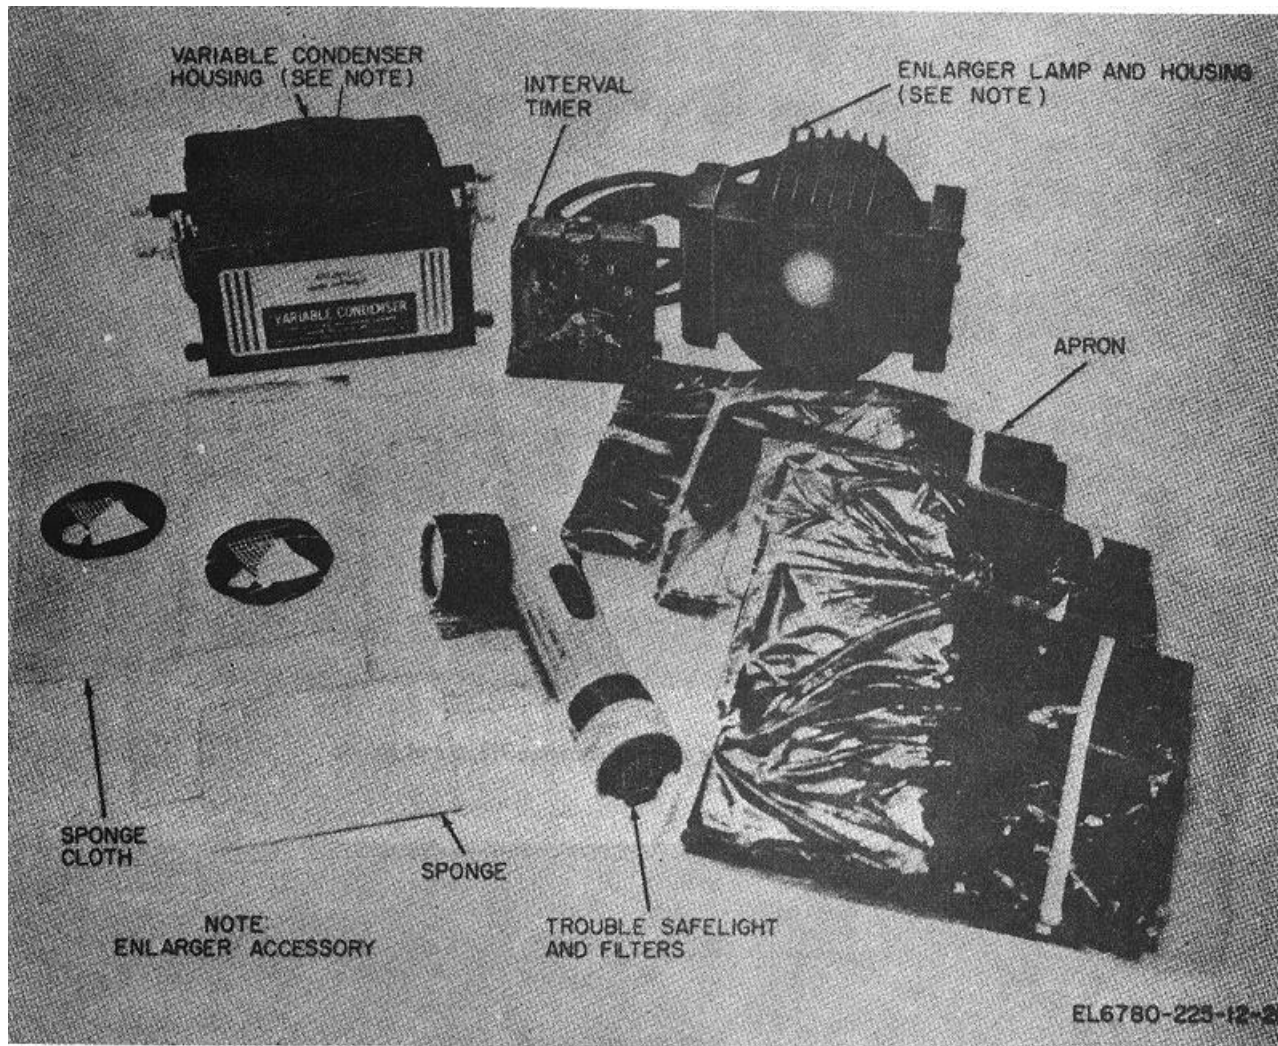
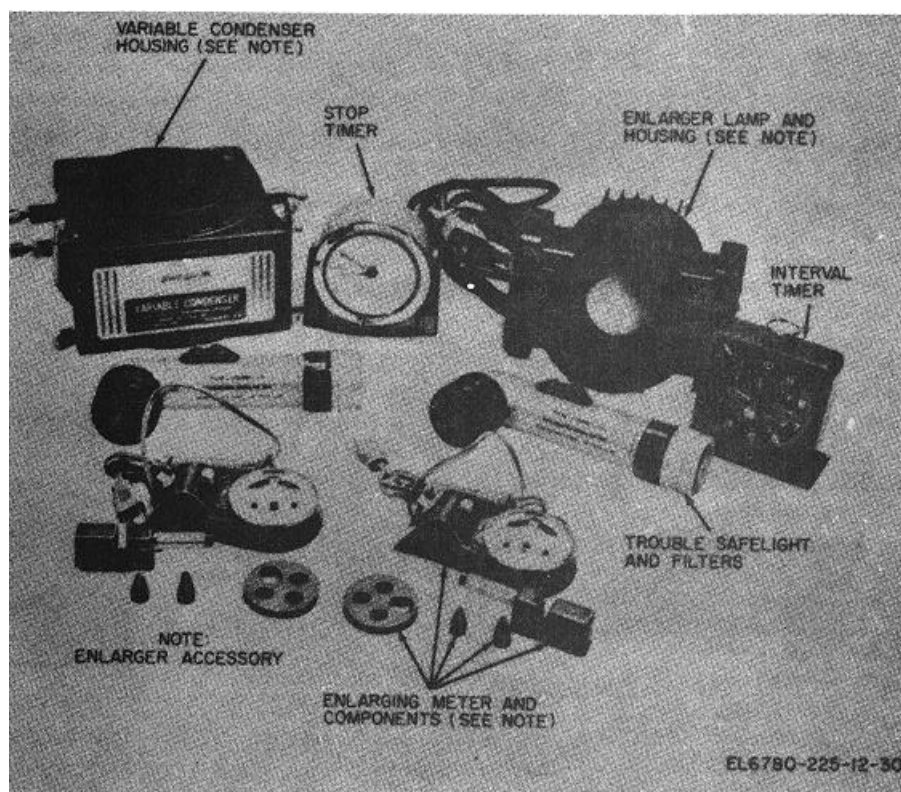
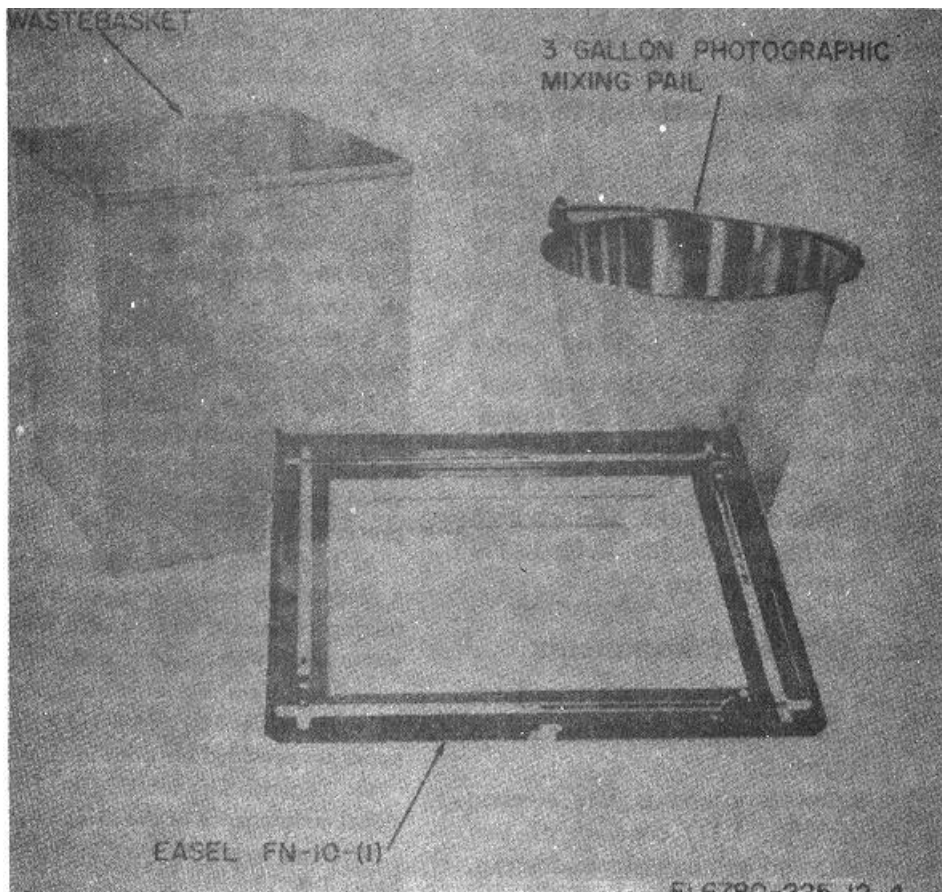
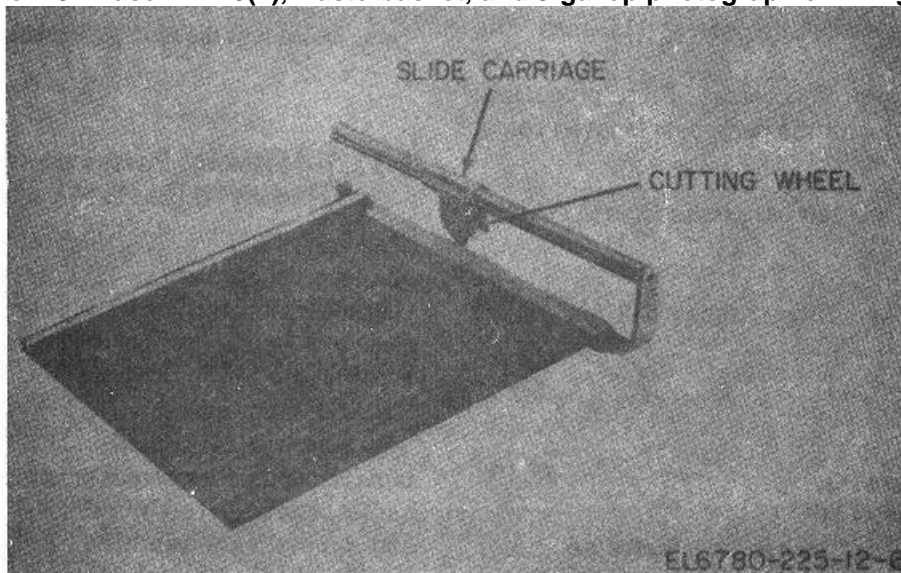

Figure 1-2. Contents of storage drawer No. 1.
Figure 1-6. Contents of storage drawer No. 5.
Figure 1-9. Easel FN-10(1), waste-basket, and 3-gallon photographic mixing pail.
Figure 1-10. 12-inch safety trimmer.
e. *Enlarger and Accessories.* One enlarger is permanently mounted roadside, and the other curbside in the center compartment (fig. 5-2). The shelf below each enlarger contains a paper safe and the shelf may be lowered to position 2 for increased projection distance. Each enlarger is operated through a repeating audible timer, safelight. With the exception of the 11 x 14-inch which controls the enlarger lamp and associated enlarging easel FN-10 (1) (fig. 1-9), of which one is stowed under each enlarger (fig. 5-2), and the 12-inch safety trimmer (fig. 1-10) secured between the Ditto machine and typewriter, all of the accessories (figs. 1-2 through 1-8) for both enlargers are stowed in drawers numbered 1 through 8 (fig. 5-2) in the center compartment. Refer to TM 11-6740-265-12 for further description of the enlarger and accessories.
Interval timer, 0 to 120 minutes, figure 1-2 and figure 1-6.
Apron, figure 1-2.
Trouble safelight and filters, figure 1-2 and figure 1-6.
Sponge, figure 1-2.
Sponge cloth, figure 1-2.
3-gallon photographic mixing pail, figure 1-9.
*n. Wastebasket.* A wastebasket is provided as shown in figure 1-9.